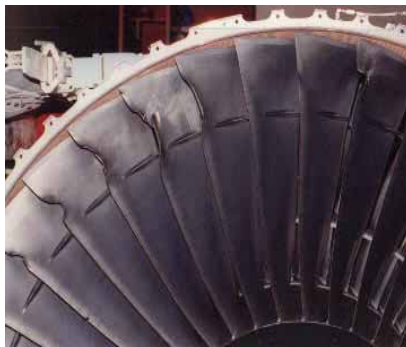

Figure 7
- Birdstrike or FOD causing blade deformation (**Figure 7**)